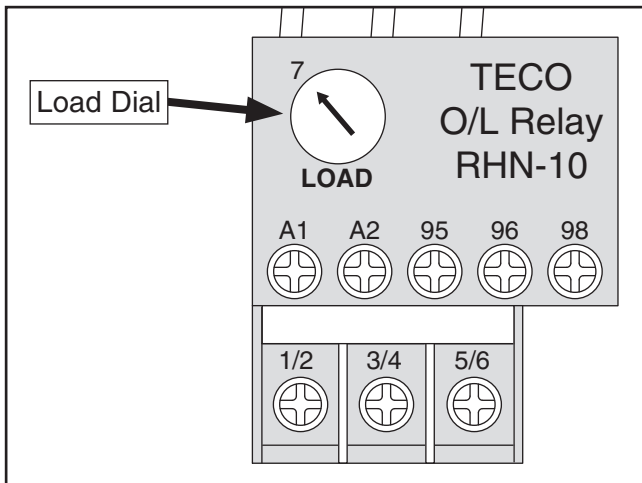

Figure 6. 440V overload relay set at 7 amps.
3. Replace the existing contactor and overload relay with those from the 440V Conversion Kit (Part Number P9953ZX042) (refer to **Pages 51– 52** for detailed illustrations), then set the overload relay load dial to 7, as shown in **Figure 6** on the next page.